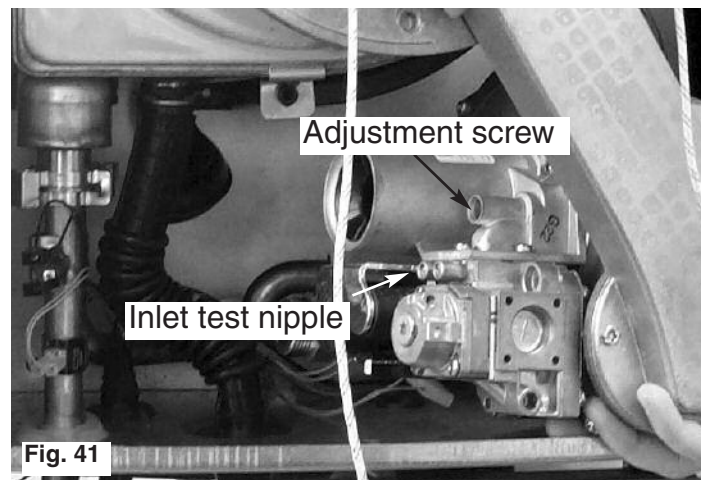

Fig. 41
2. Connect a manometer to the inlet test nipple (Fig. 41) on the gas valve, turn on the Central Heating and ensure the inlet working pressure is 20mbar. If correct proceed as follows;
7. If necessary adjust the screw on the gas valve (Fig. 41) to set the CO2 to 8.9% +/- 0.2% (NG) or 8.9% +/- 0.2% (LPG) with the front case removed;
8. Press the setting button **-** once to set the combustion control rate mode to minimum, and, if necessary, adjust the screw on the gas valve to set the CO2 to 9.2% +/- 0.2% (NG) or 9.7% +/- 0.2% (LPG) with the front case removed;
9. Press the setting button **+** again to set the combustion rate control mode to maximum and if necessary adjust the screw on the gas valve to set the CO2 to 8.9% +/- 0.2% (NG) or 9.7% +/- 0.2% (LPG) with the front case removed;